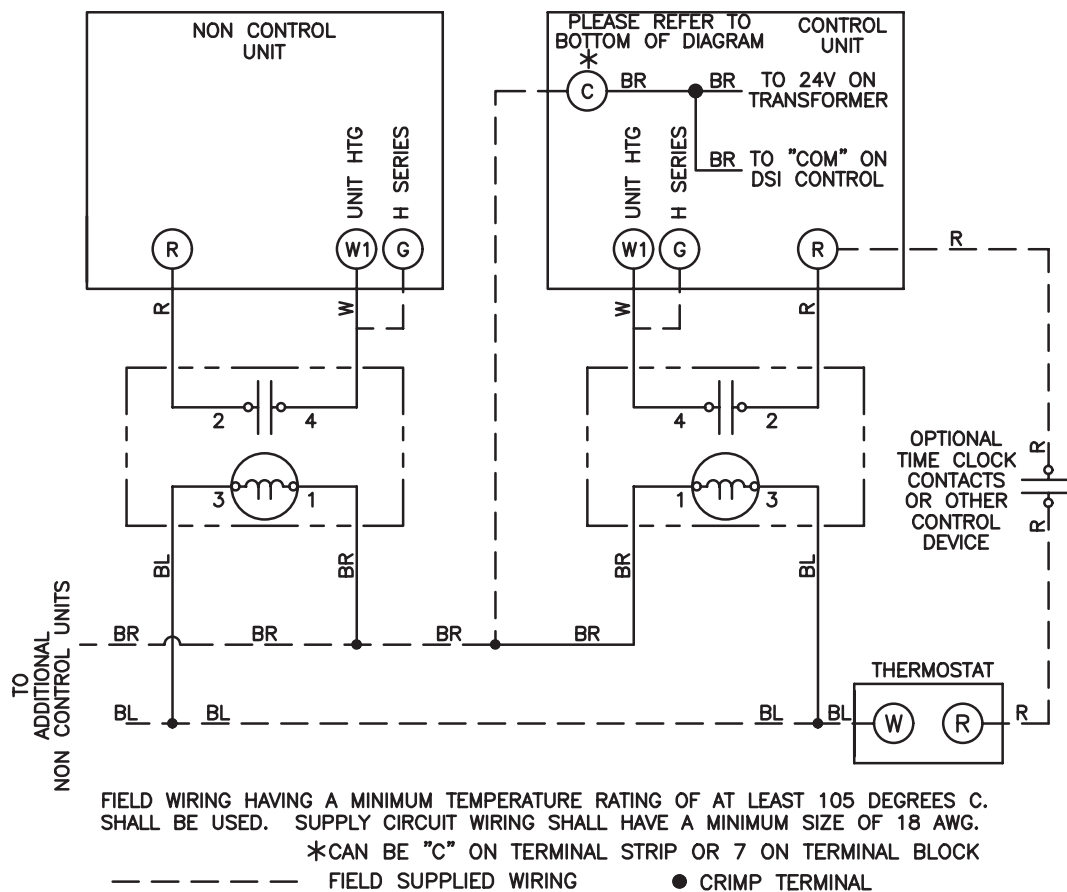

Figure 8. Multiple Unit Control Wiring Diagram
5. Connect TEW-type control wiring to relay terminals in accordance with Figure 8.
- For future reference, check appropriate box—for CONTROL UNIT or NON CONTROL UNIT—on wiring diagram label (4).